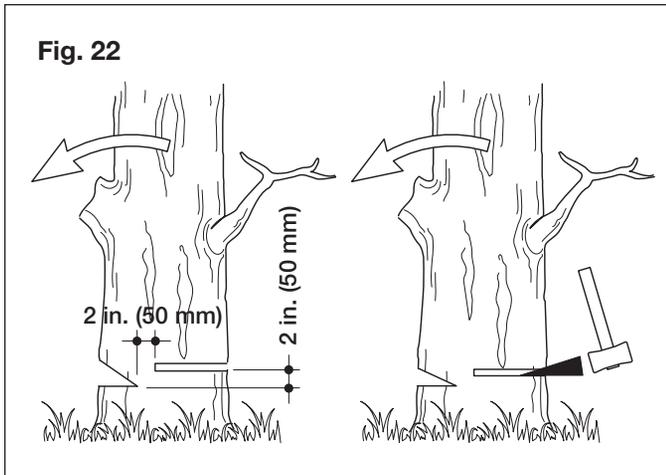

Fig. 22
Make the notch 1/3 the diameter of the tree, perpendicular to the direction of falls as illustrated (Fig. 22).
i) Make the felling back cut at least 2 in. (50 mm) higher than the horizontal notching cut as illustrated (Fig. 22). Keep the felling back cut parallel to the horizontal notching cut. Strategically position the felling back cut so that enough wood is left to act as a hinge. The hinge wood keeps the tree from twisting and falling in the wrong direction. Do not cut through the hinge.